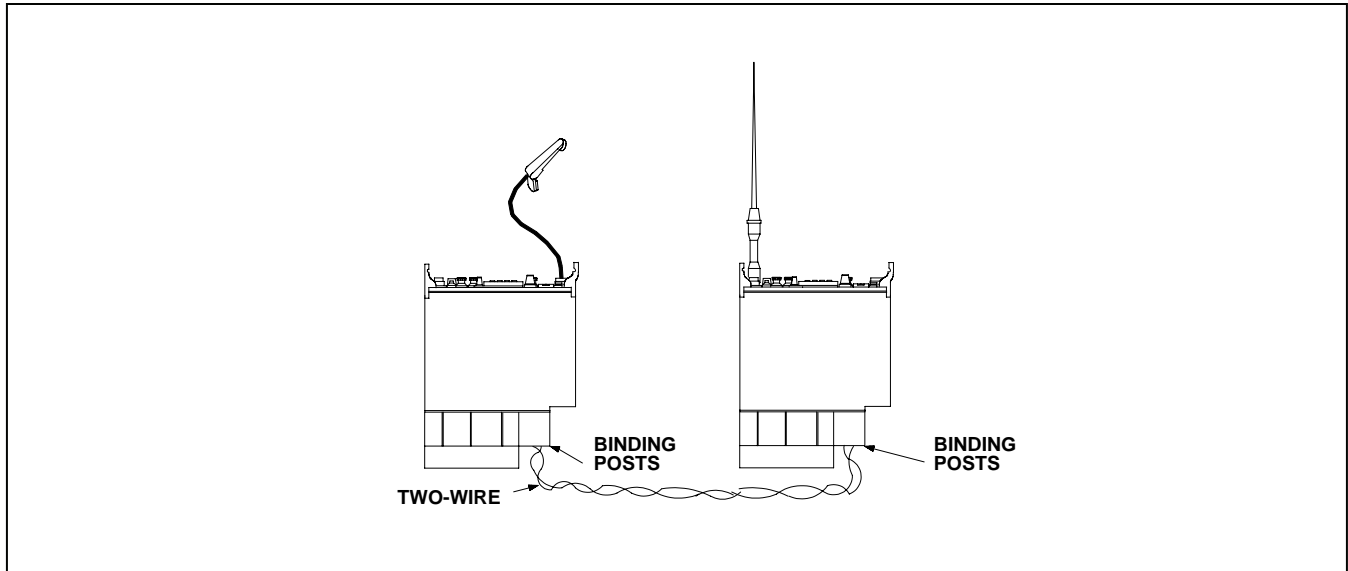
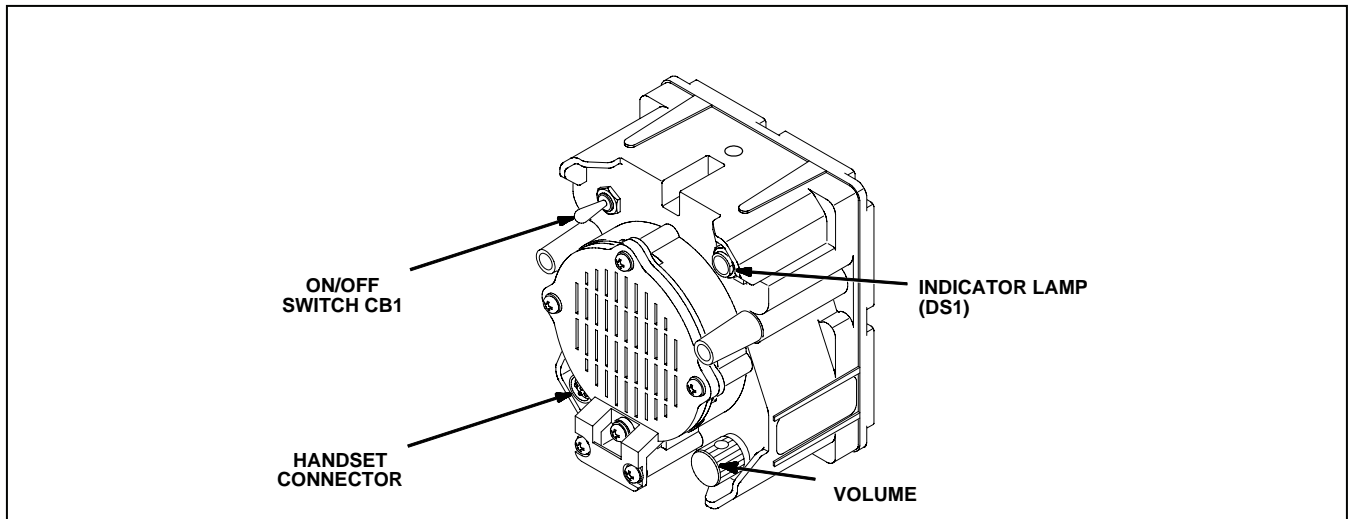
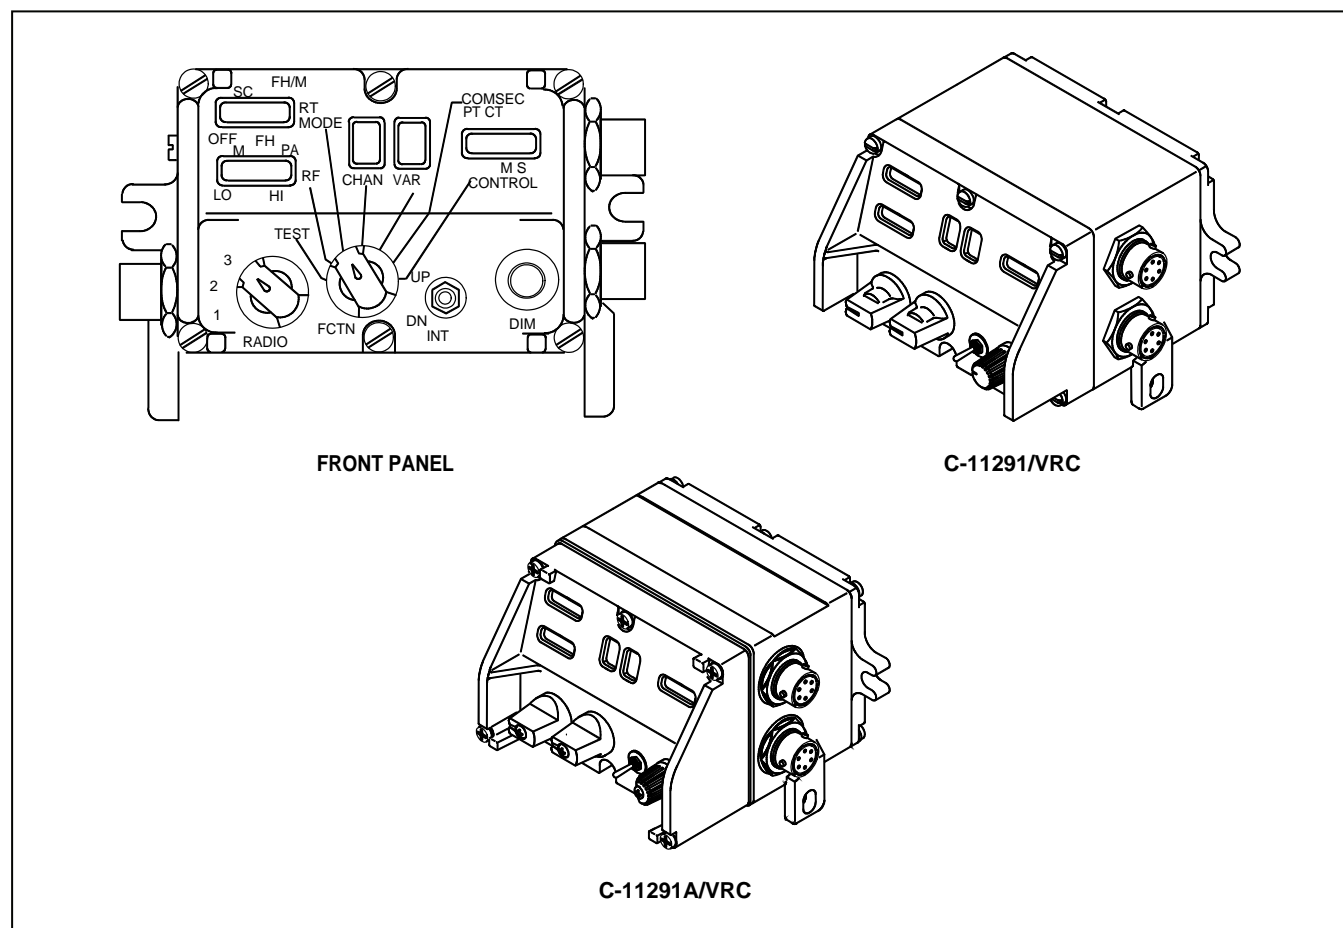

Figure 4-24. DISMOUNTED RCU TO MANPACK RADIO
Figure 4-28. LOUDSPEAKER, LS-671
Figure 4-29. CONTROL-MONITOR
- Dismounted RCU to a manpack radio. (See Figure 4-24, below)
CONFIGURATIONS	See Figure 4-28 for use of vehicular SIP RT as a RCU. For dismantled SIP RTs, see Figures 4-24 and 4-25. For ASIP RTs, see Figure 4-29. A 2-Wire Adapter is required to connect the 2-wire cable to the ASIP RT.